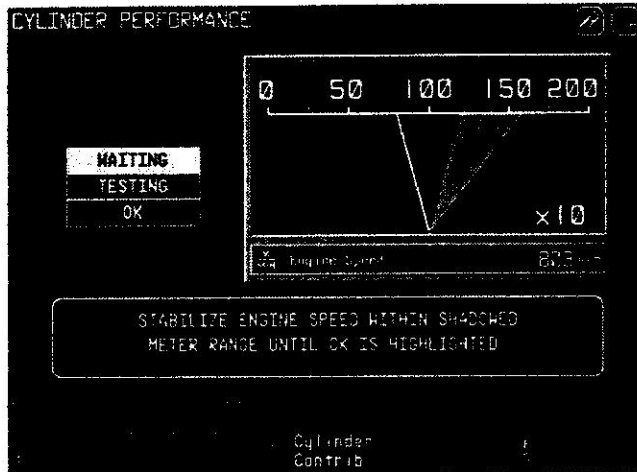

Figure 2-23
1. The *Cylinder Performance* meter screen appears (see Figure 2-23). Follow the instructions on the screen, start the vehicle's engine and adjust the RPM reading to fall within the shadowed meter range on the screen.